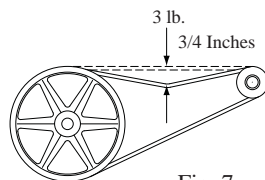

Fig. 7
- **Belt tension.** Loosen the motor mount bolts and slide the motor back until the belt is properly tensioned. A 3 lb. force should deflect the belt 3/4 inches (see Fig. 7). Retighten motor mount bolts. **Do not adjust pulley to tighten belt.**